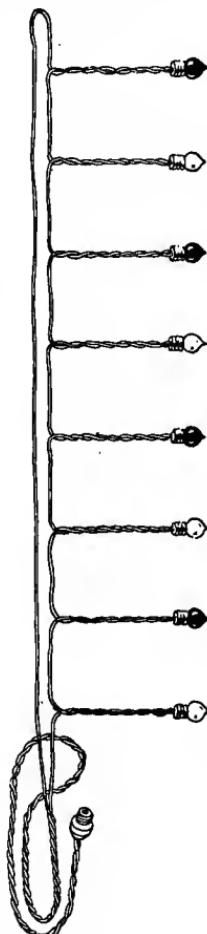

FIG. 344.—A "Circuit"
*lamps and sockets* that can be used with that current (Figs. 345 and 346), and attach a *plug* to the end of the wire that may be screwed into one of the light-fixture sockets, just as the *drop-cord* of any electric lamp is connected (Fig. 344); but if there is no lighting current at hand you will have to depend upon battery cells.
The Circuit Lamp Outfit is wired differently. These lamps must be connected in *series*, as shown in Fig. 344, and there must be eight, sixteen, or twenty-four lamps—a multiple of eight. Regular lamp *drop-cord* should be used for connecting the lamp sockets; this can be bought with a silk covering.